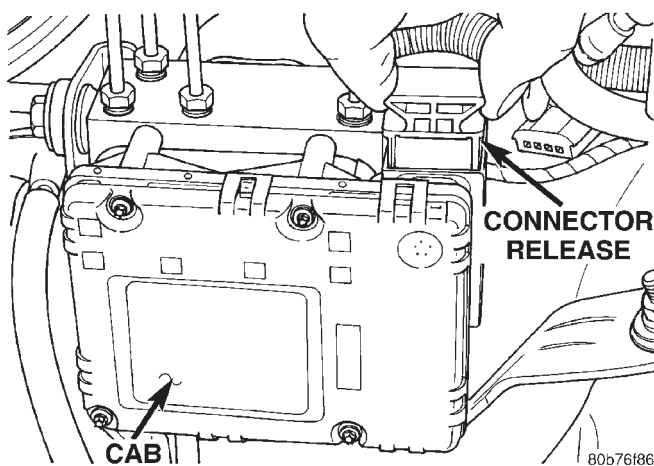

Fig. 4 CAB Connector Release
- (1) Remove negative battery cable from the battery.
- (2) Remove air cleaner housing refer to Group 14 Fuel System.
- (3) Pull CAB harness connector release up and remove connector (Fig. 4).